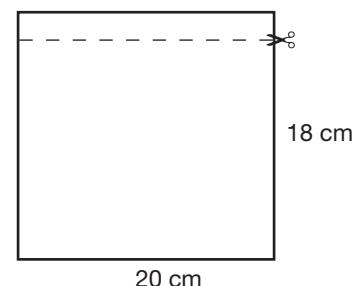

Figure 2.
1. Cut a 20 cm × 18 cm piece of chromatography paper (see Figure 2). Handle the paper by the edges.